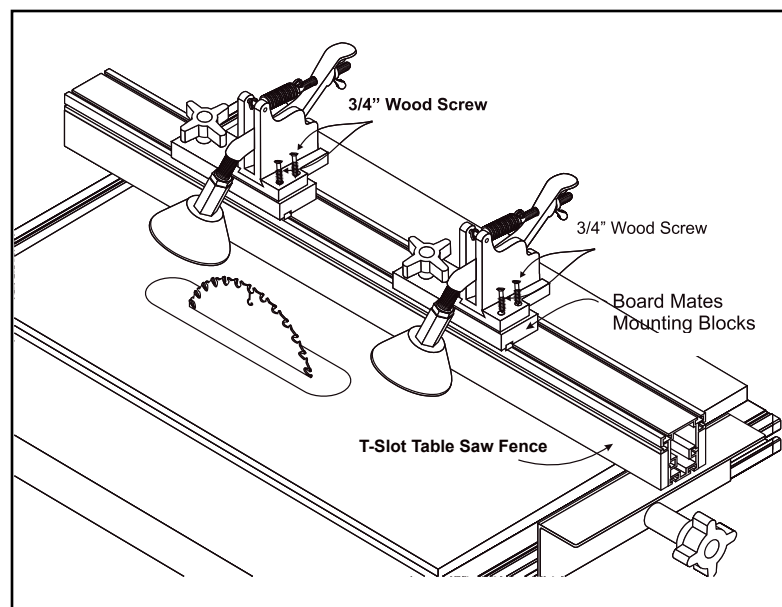

Figure 6
Option 2 install your BOARD MATES using Board Mates Mounting Blocks (sold separately) on a table saw fence with 1/4" T-slots. Figure 6
1. Install the Board Mates Mount blocks in the T-Slot closest to the blade side of the table saw fence. Figure 6